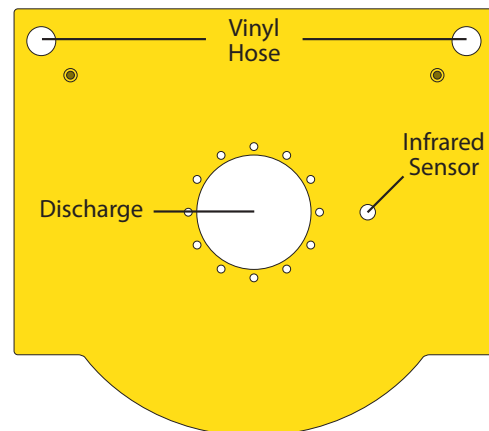

FIG. 25
Install the Dust Sentry's (I) infrared sensor (I) to the pre-cut hole on the Wall Bracket (F). FIG. 25].